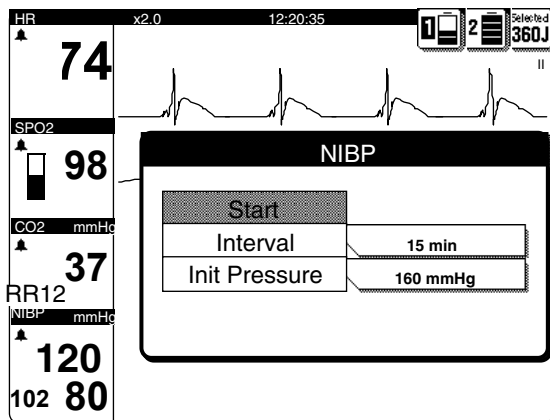

Figure 3-12 NIBP Overlay
- 4 To select an interval, highlight and select **NIBP** on the Home Screen. Refer to Figure 3-12.